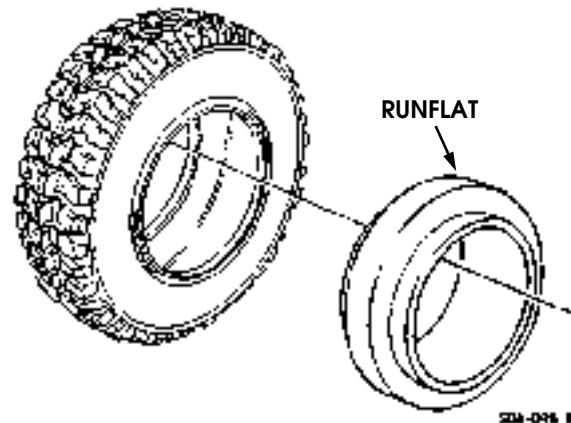

Figure 6-6: Runflat Appearance After Removal
20. Remove runflat from tire and remove runflat compressor from runflat (Figure 6-6).
7. Inspect runflat for splitting, cracking, wear, or excessive chafing. Damaged runflat performance will be non-existent or greatly reduced. Replace runflat if damaged (Figure 6-6).